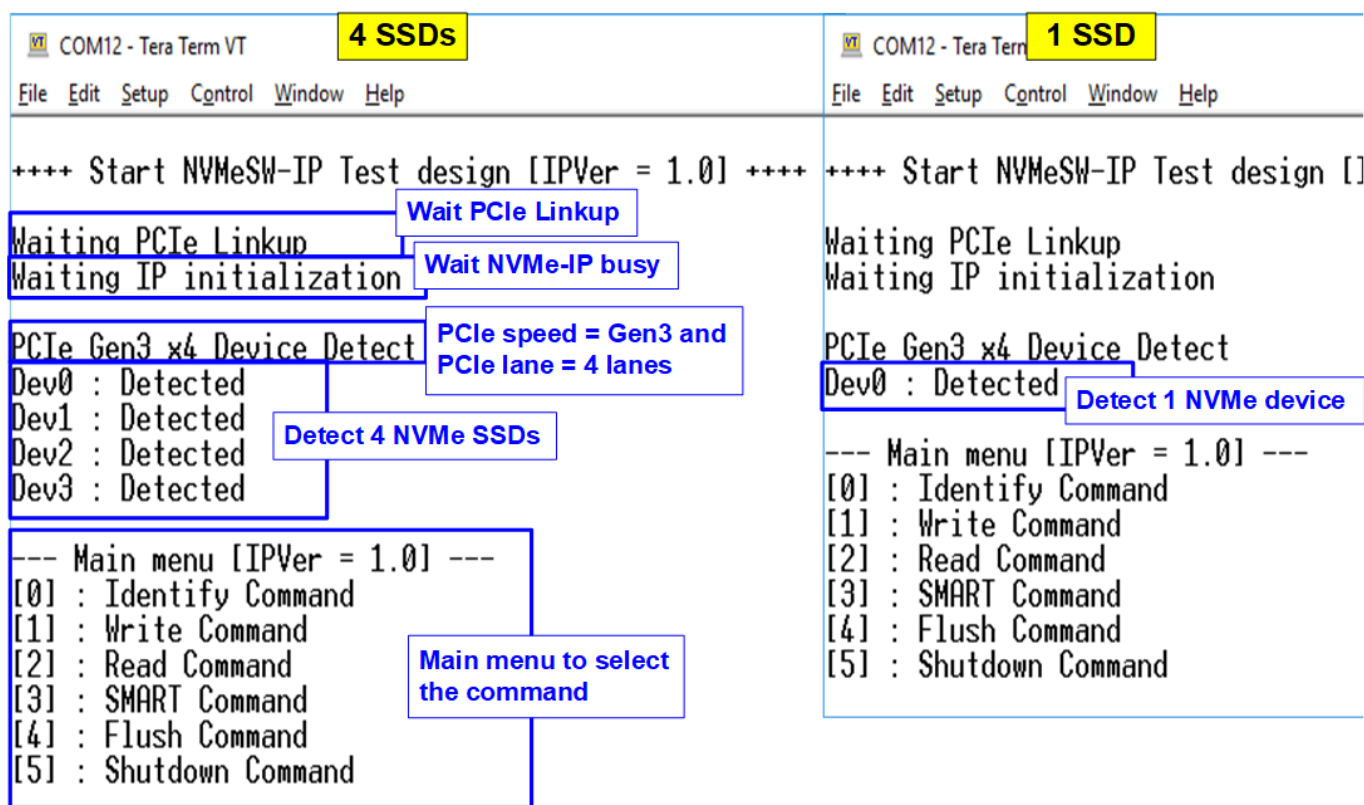

Figure 2-12 Main menu after IP finishes initialization
- After finishing NVMeSW-IP initialization, PCIe speed, number of PCIe lanes, and total detected devices are displayed. Finally, main menu to run six commands is shown on the console. The example message when connecting to four SSDs and one SSD is shown in Figure 2-12.